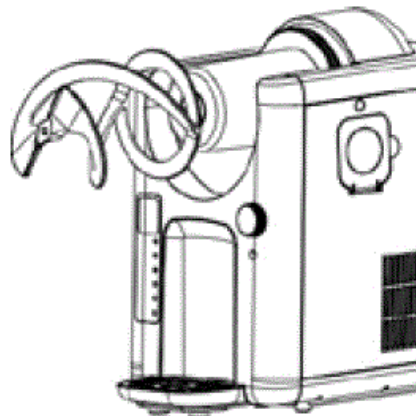

Fig. 9
17. Remove the mixer (Fig. 9) and wipe off any remaining liquid on the housing. Wipe off the cooling cylinder and the seal with a clean cloth. Important: The seal cannot be removed.